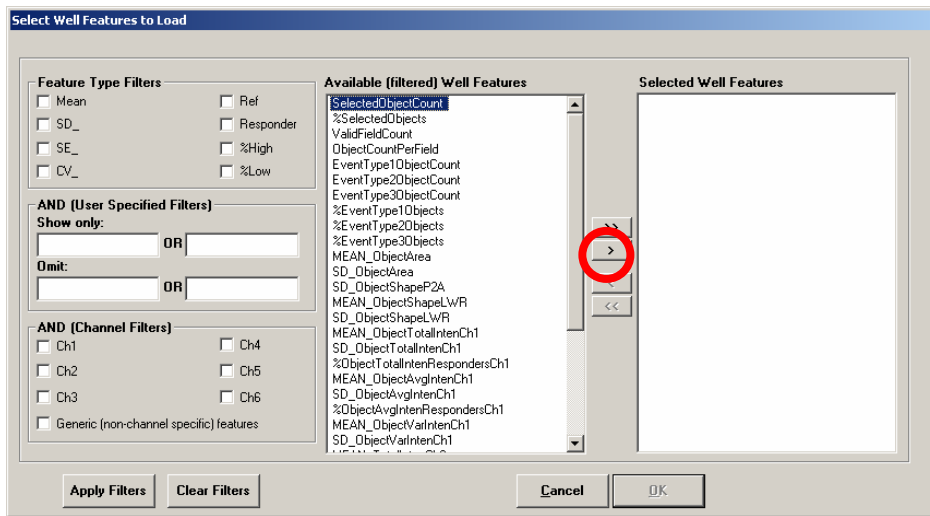

Figure 1. Well features selection. Red circle: selection button.
1. Find your scan in the scan list and double-click on it. A new window will pop up. Select in the well feature list ValidObjectCount by clicking on the text and then on the single arrow button pointing to the right (Fig. 1). In the same way, select %AvgIntenRespondersCh2. Click ok. If you make a wrong selection, use the arrow pointing to the left to cancel the selection (select first the feature).